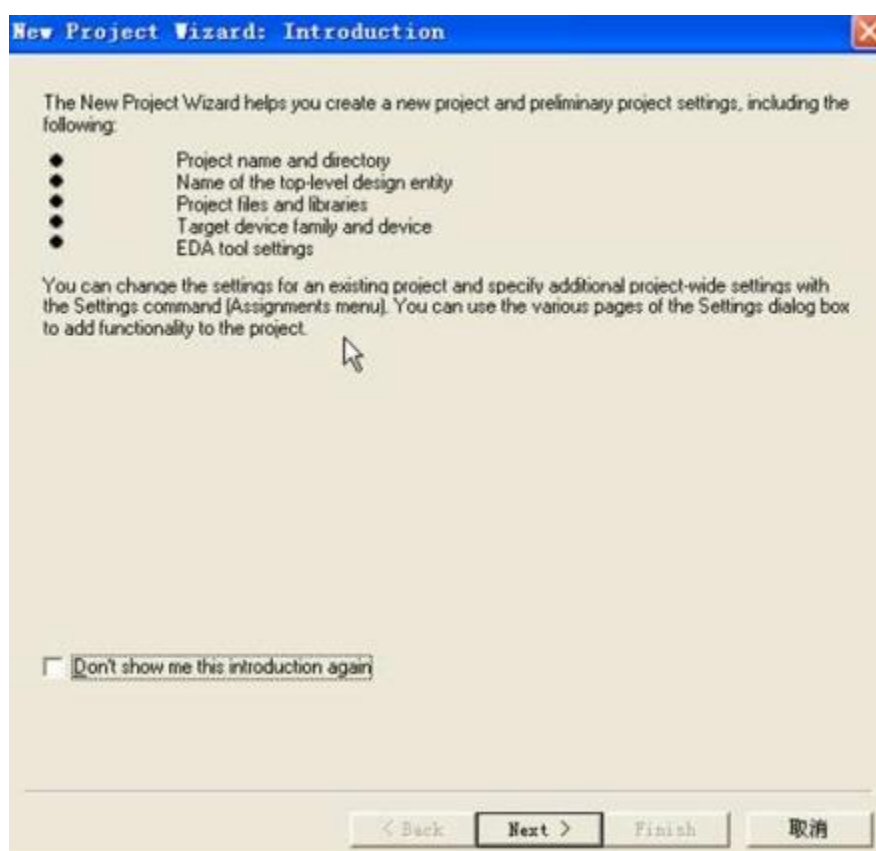

Figure 2-1 New Project Wizard introduction
1. In the Quartus II software, select File > New Project Wizard. The Introduction page opens. See **Figure 2-1**